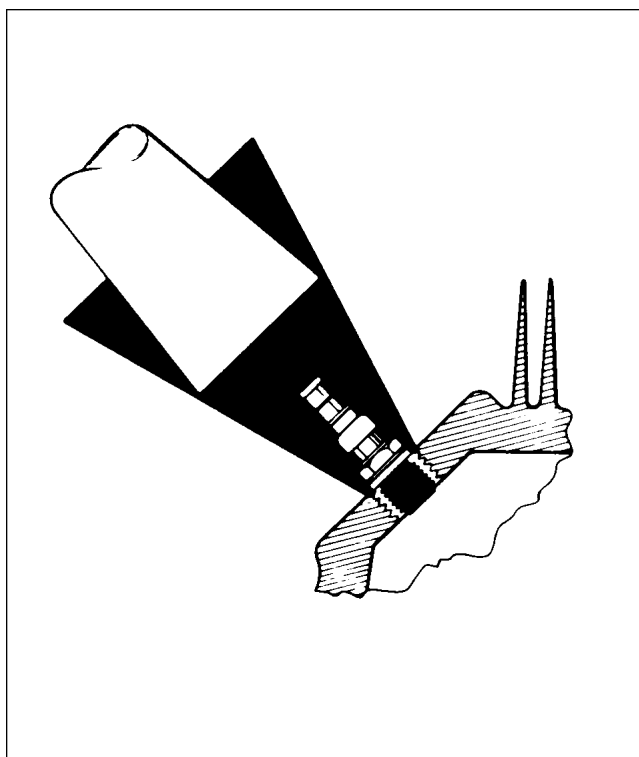

Figure 74-28. Removing Spark Plug Frozen to Bushing
- d. Removal of seized spark plugs in cylinder is done by application of liquid carbon dioxide (CO₂) by a conical metal funnel adapter with a hole at the apex just large enough to accommodate the funnel of a 20 lb bottle. (Refer to Figure 74-28.) When a seized spark plug cannot be removed by normal means, funnel adapter is placed over and around spark plug. Place funnel of CO₂ bottle inside funnel adapter and release carbon dioxide to chill and contract spark plug. Break spark plug loose with a wrench. A warm cylinder head at the time carbon dioxide is applied will aid in removal of excessively seized plug.